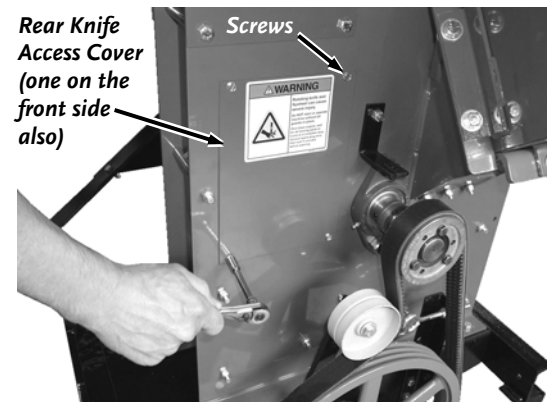

Figure 38
2. Using a 5/16" Wrench, remove the Self-Tapping Screws and remove both Knife Access Covers from the front and back of the Chipper Assembly (**Figure 38**).